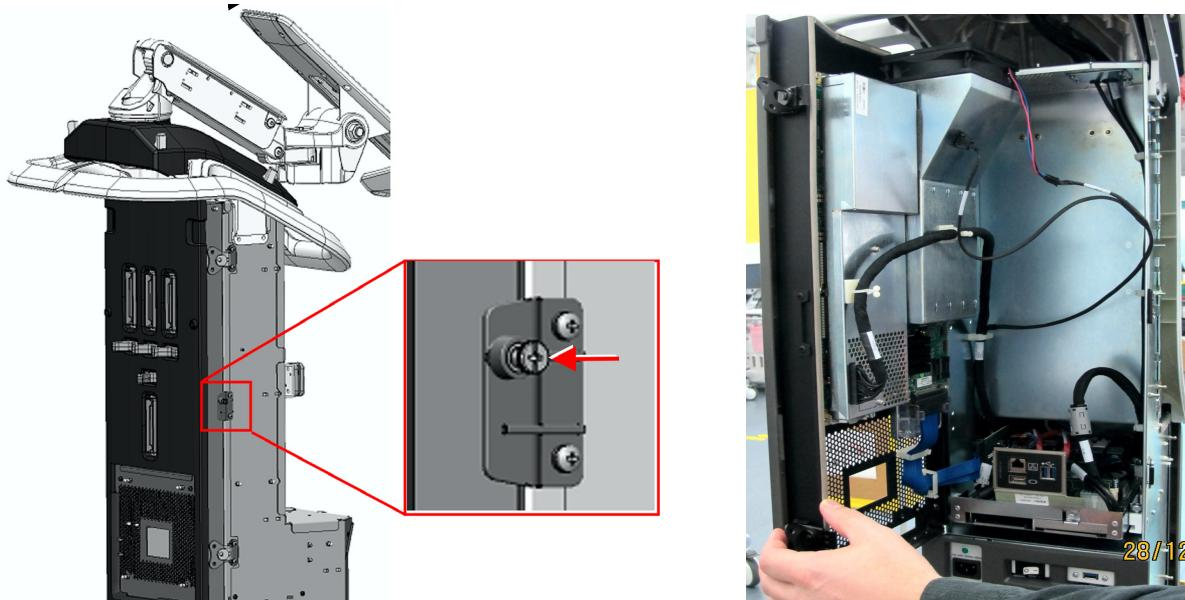

Figure 8-19 Opening FE Door
- 5.) Close the FE door and close the two fastening latches on the left side of the Front End door assembly (Figure 8-19).